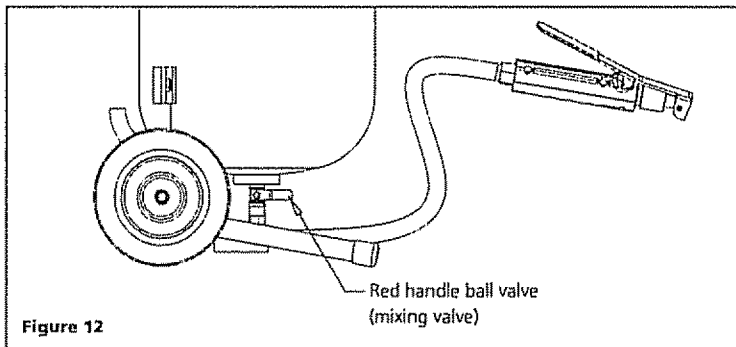

Figure 12
4. Set the red handle ball valve under the tank to a mid-point position between fully open and fully closed. This "mixing" valve will set the ratio of blast media to the air (see Figure 12).